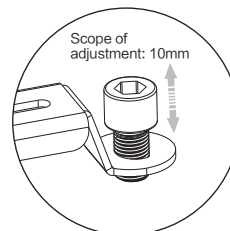

figure 14
4. Rotate the adjustable nuts (4-3) for adjusting the height of installation arms (4-2) if the installation holes are not at the same level as figure 14.